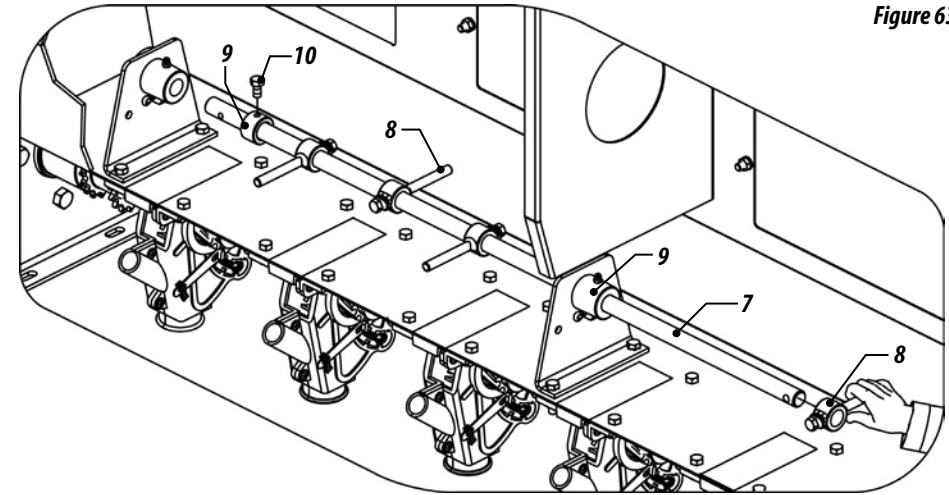

Figure 63
- 4- Then, press the shaft (7) among the mixers (8), bushing (9), fixing with screw (10), Figure 63;